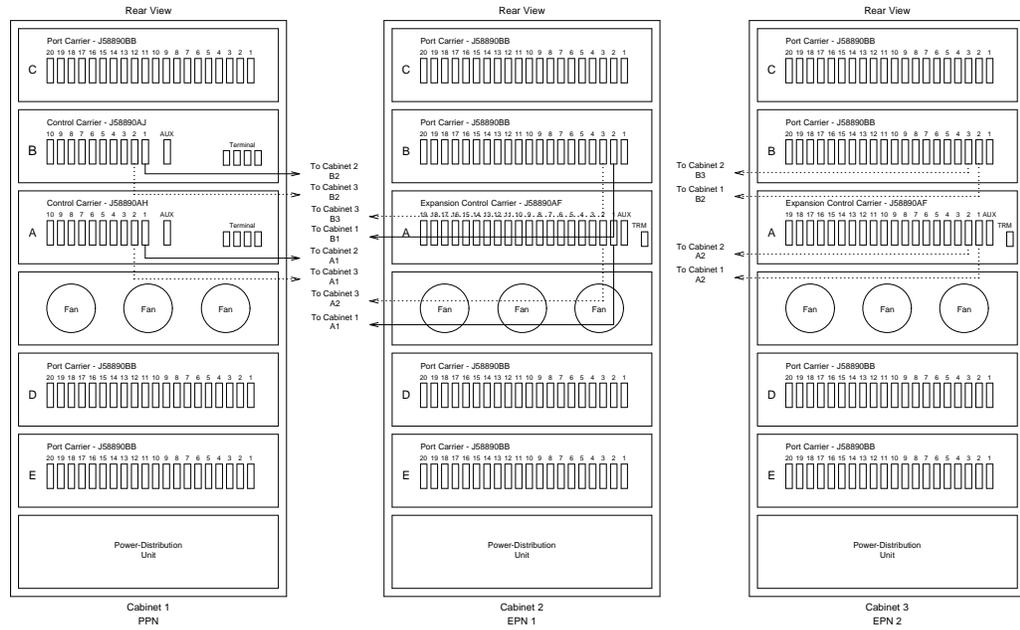
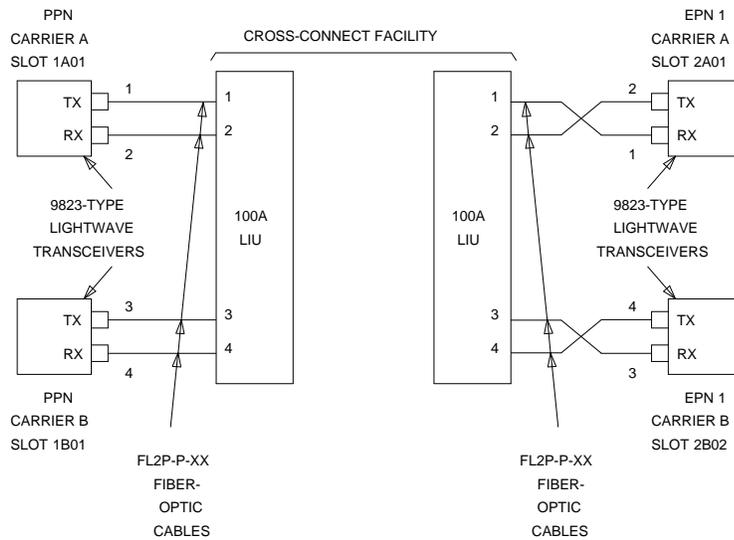
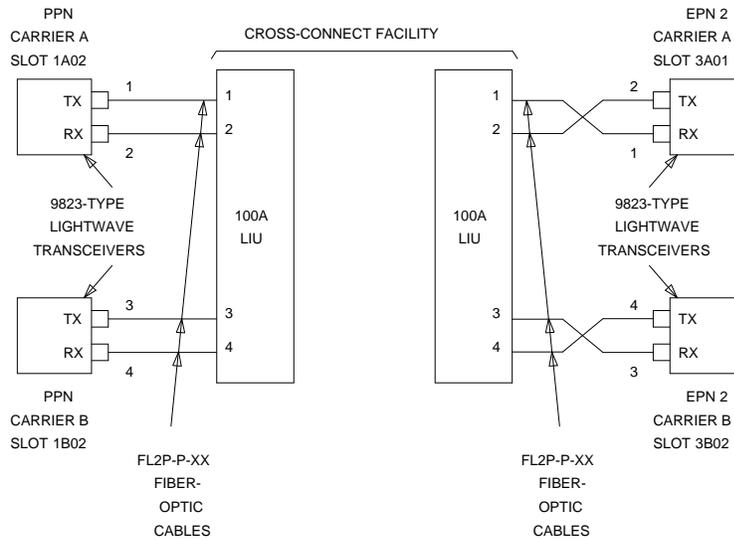
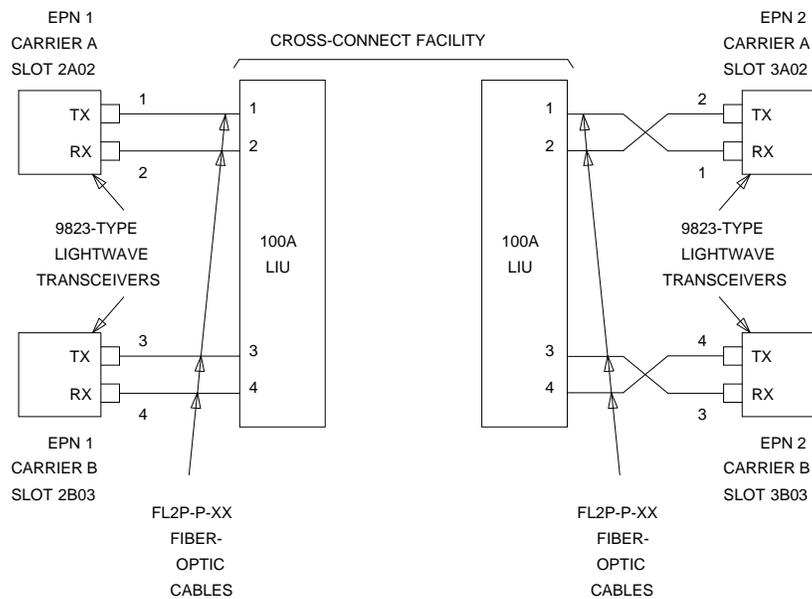

Figure 7-46. Critical-Reliability G3i V4 with Two or Three Port Networks
Figure 7-47. Fiber-Optic Connections PPN to EPN1
Figure 7-48. Fiber-Optic Connections PPN to EPN2
Figure 7-49. Fiber-Optic Connections EPN1 to EPN2
1. Behind control carrier A of PPN cabinet 1 (see Figure 7-46 on page 7-105, Figure 7-47, Figure 7-48, and Figure 7-49):